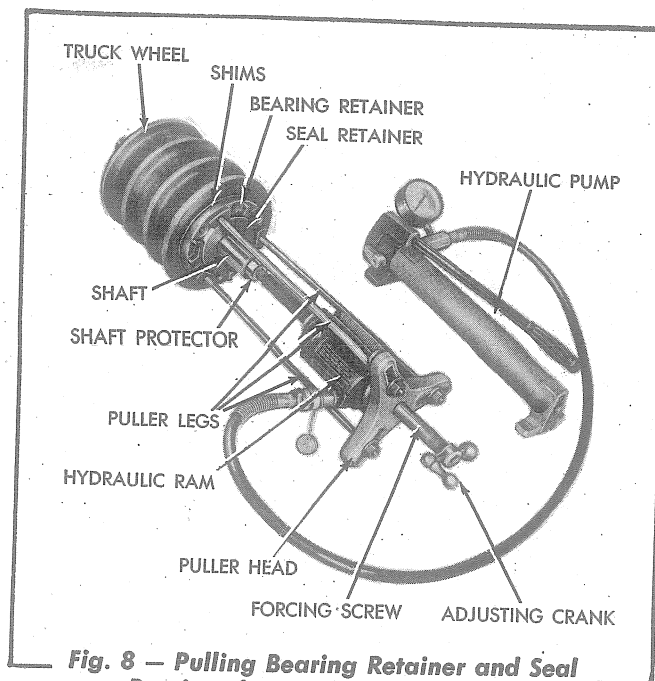

Fig. 8 — Pulling Bearing Retainer and Seal Retainer from Truck Wheel Shaft
3. Three equally spaced tapped holes are provided in each bearing retainer for means of removal. Using special tools similar to the ones shown in Fig. 8, pull each bearing retainer and seal retainer (with seal assembly components) from the shaft. Tie the bearing adjustment shims to their respective retainer to prevent loss. **CAUTION:** Use care to avoid scratching and damage to the seal rings.